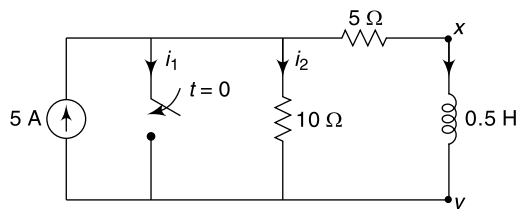

Fig. 14.92
14.103 Determine the values of i_1 , i_2 and i_3 in the circuit shown in Fig. 14.92 at $t = 0.2\text{ s}$.